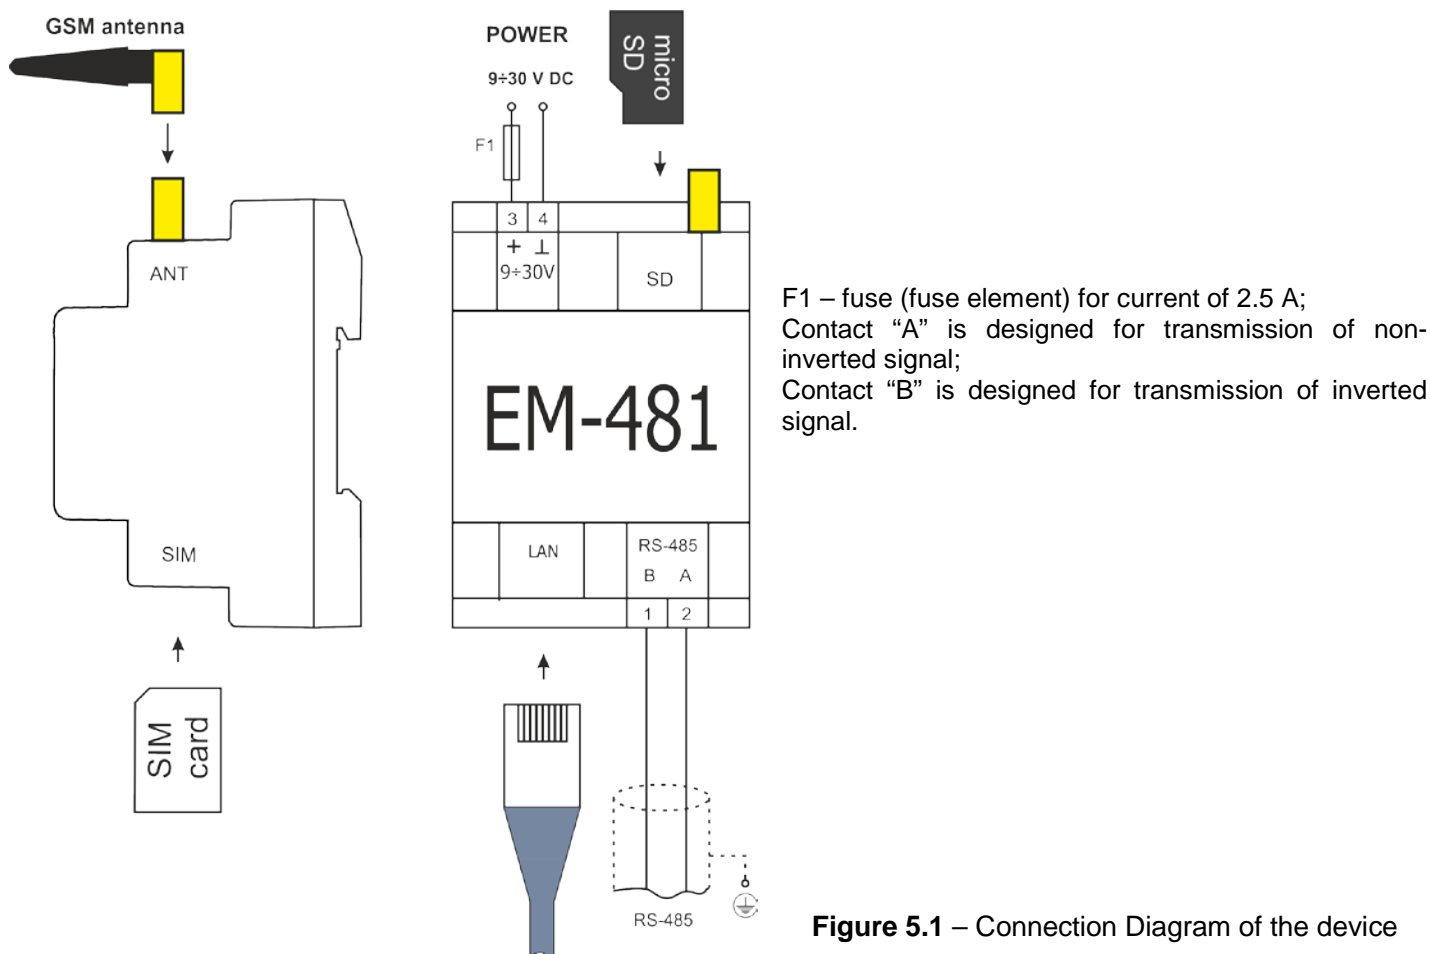

Figure 5.1 – Connection Diagram of the device
5.1.3.1 Connect the device as per Fig. 5.1.